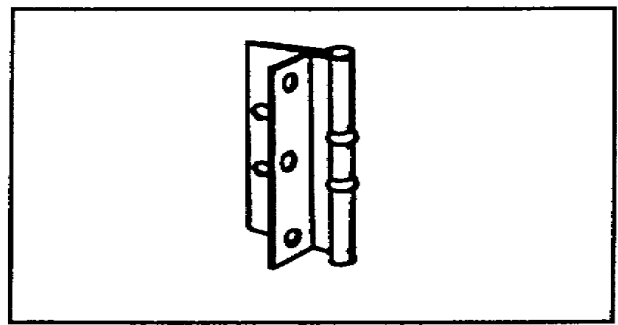

Figure 1-54. Half-surface hinge
c. Half-Surface. As shown in Figure 1-54, the half-surface butt-type hinge is like the other hinges, except that one leaf is fastened on the surface of the door and the other leaf fits into a grain in the frame.